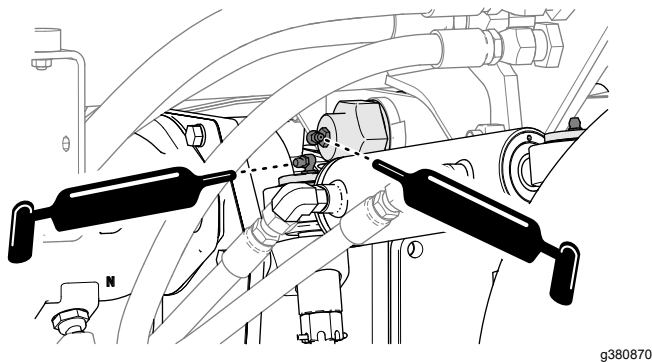

Figure 68
- Rear axle-pivot bushing and steering cylinder, refer to Figure 68